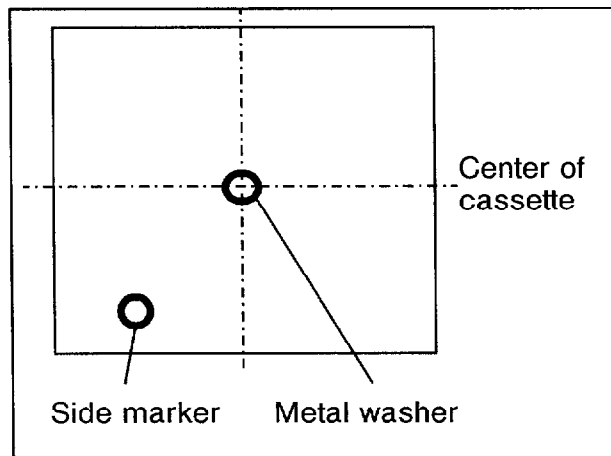

Fig. 1
- Affix a metal washer to the center of a cassette (24 cm x 30 cm or 10" x 12") (Fig. 1).
- Affix a second metal washer to the cassette as a side mark (Fig. 1).